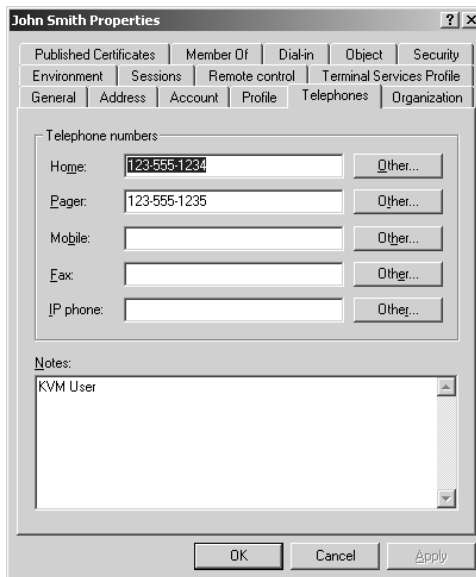
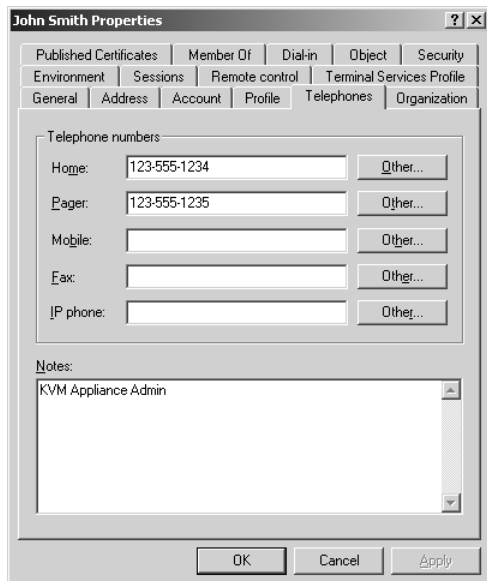

Figure 4.6: Active Directory - KVM User
Figure 4.7: Active Directory - KVM Appliance Admin
- The Notes property is used to implement the access control attribute. The value of the Notes property, available in group and user objects shown in Active Directory Users and Computers (ADUC), is stored internally in the directory, in the value of the info attribute. ADUC is a Microsoft Management Console snap-in for configuring Active Directory. It is started by selecting *Start - Programs - Administrative Tools - Active Directory Users and Computers*. This tool is used to create, configure and delete objects such as users, computers and groups. See Figure 4.6 on page 59 and Figure 4.7 on page 60 for more information.